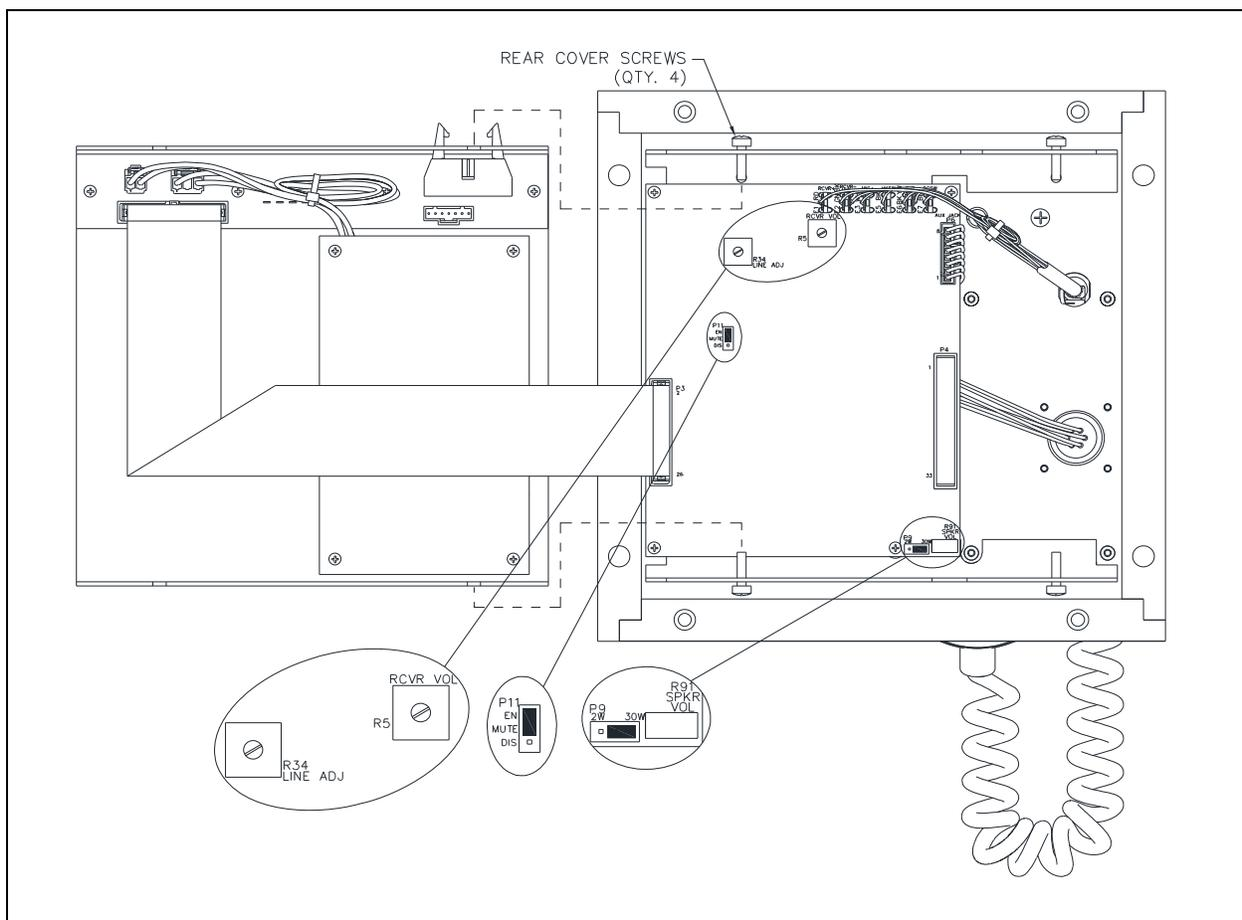
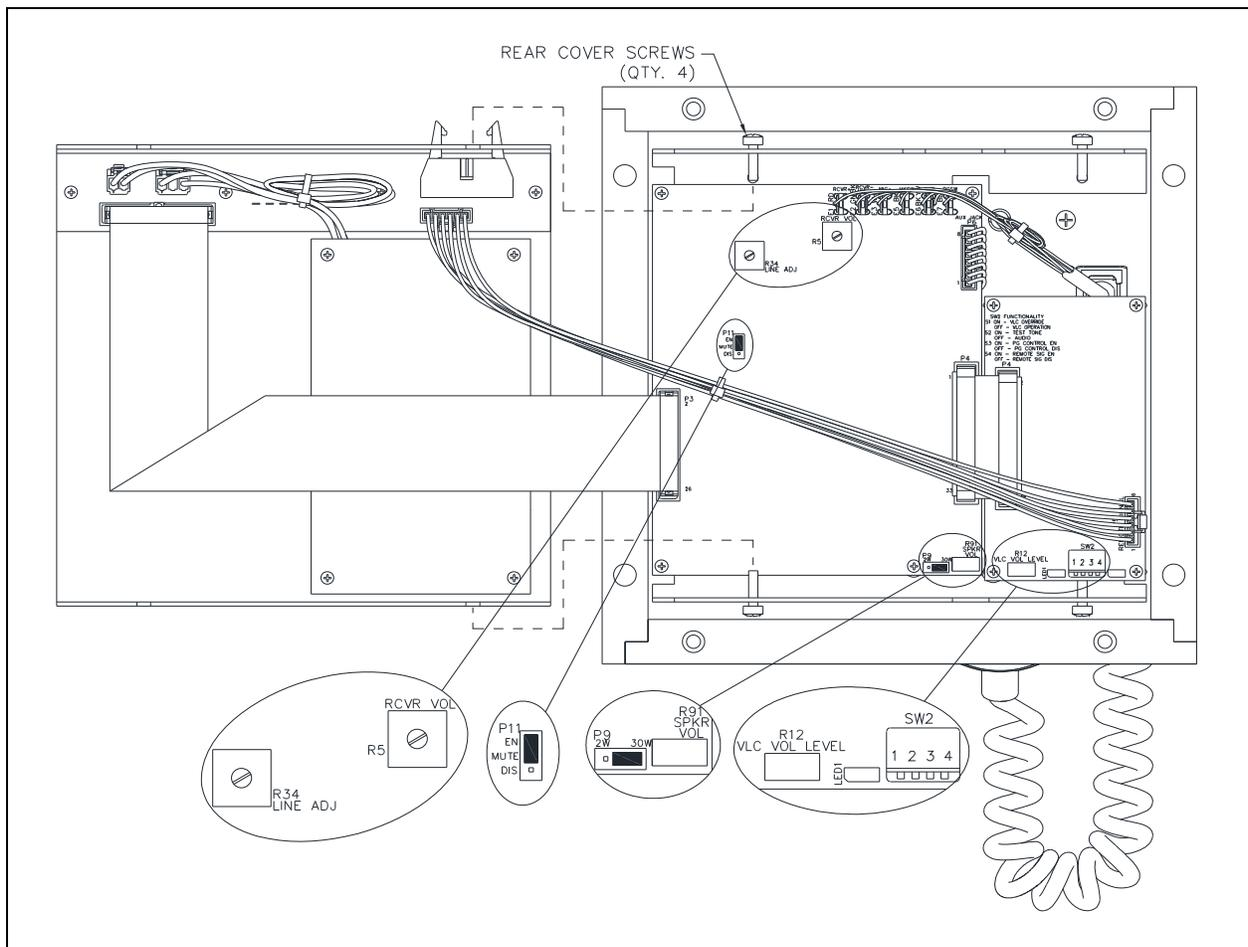

Figure 6. ICS Page/Party Amplifier—Open for Settings and Adjustments
Figure 10. ICSVC Amplifier—Open for Settings and Adjustments
1. Place the amplifier on a flat surface and loosen (*do not remove*) the two sets of rear cover screws, located on the top and bottom L-shaped slots (see Figure 6, Figure 10, and Figure 14)).
GAI-Tronics recommends using a No. 10440-002 Maintenance Cable (*purchased separately*) to perform the following adjustments (see Figure 6 for component locations).
Handset Levels (Models 701-302ICS & 701-304ICS Only) (see Figure 6).
GAI-Tronics recommends using a No. 10440-002 Maintenance Cable (*purchased separately*) to perform the following adjustments (see Figure 10 for locations).
GAI-Tronics recommends using a No. 10440-002 Maintenance Cable (*purchased separately*) to perform the following adjustments (see Figure 10 for component locations).
Set the normal speaker output level using a small screwdriver to make the adjustments through the access hole, on the bottom of the amplifier (see Figure 10):
3. Adjust the speaker volume potentiometer, R91, on the main PCBA, to the desired audio level (see Figure 10).
To set the VLC controlled speaker output level (see Figure 10):
Set SW2-3 (see Figure 10) to the on position to disable local paging when the system VLC tone is present.
Set SW2-4 (see Figure 10) to the on position to activate the RTU relay when the system VLC tone is present.